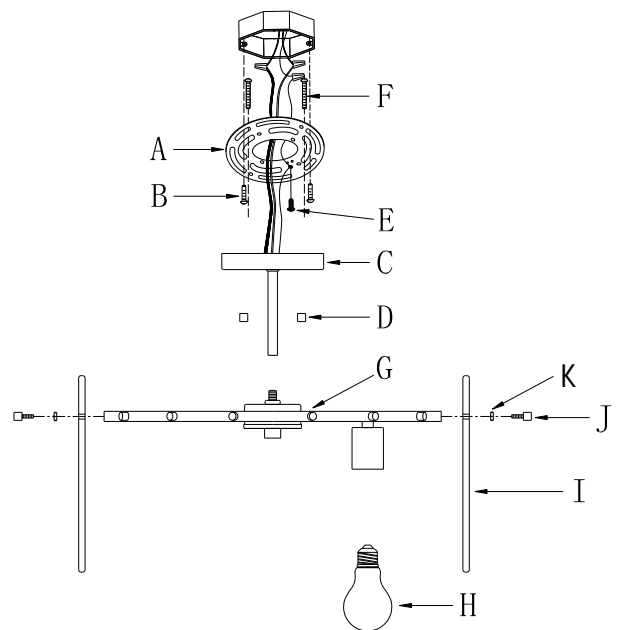

Fig. 2
### CONNECTING THE WIRES (Fig. 2)
6. Connect electrical wires as shown in Fig.2, making sure that all wire connectors are secured. If your junction box has a ground wire (green or bare copper), connect the fixture's ground wire to it. Otherwise, connect the ground wire directly to the mounting plate (A) using the green screw (E) provided.